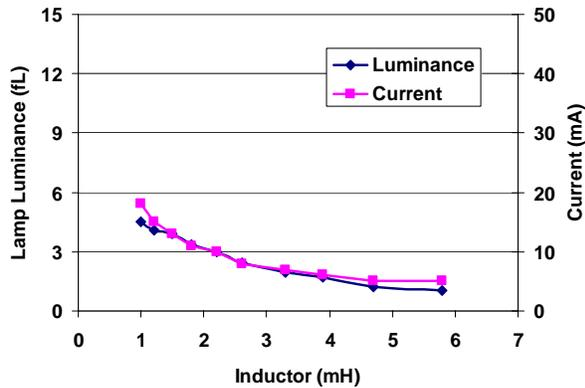

Figure 3: V+=1.5V, 1in² (6.45cm²) EL Lamp
The external inductor (L) selection for a D355B IC driver circuit greatly affects the output capability and current draw of the driver. A careful designer will balance current draw considerations with output performance in the choice of an ideal inductor for a particular application. Figure 3, 4, and 5 show typical brightness and current draw of a D355B IC driver circuit with different inductor values, lamp sizes, and supply voltages while keeping the LF constant. Please note that the DC resistance (DCR) of inductors with the same nominal inductance value may vary with manufacturer and inductor type. Therefore, inductors made by a different manufacturer may yield different outputs, but the trend of the different curves should be similar. Lamp luminance is also a function of lamp size. In each example, a larger lamp will have less luminance with approximately the same current draw.